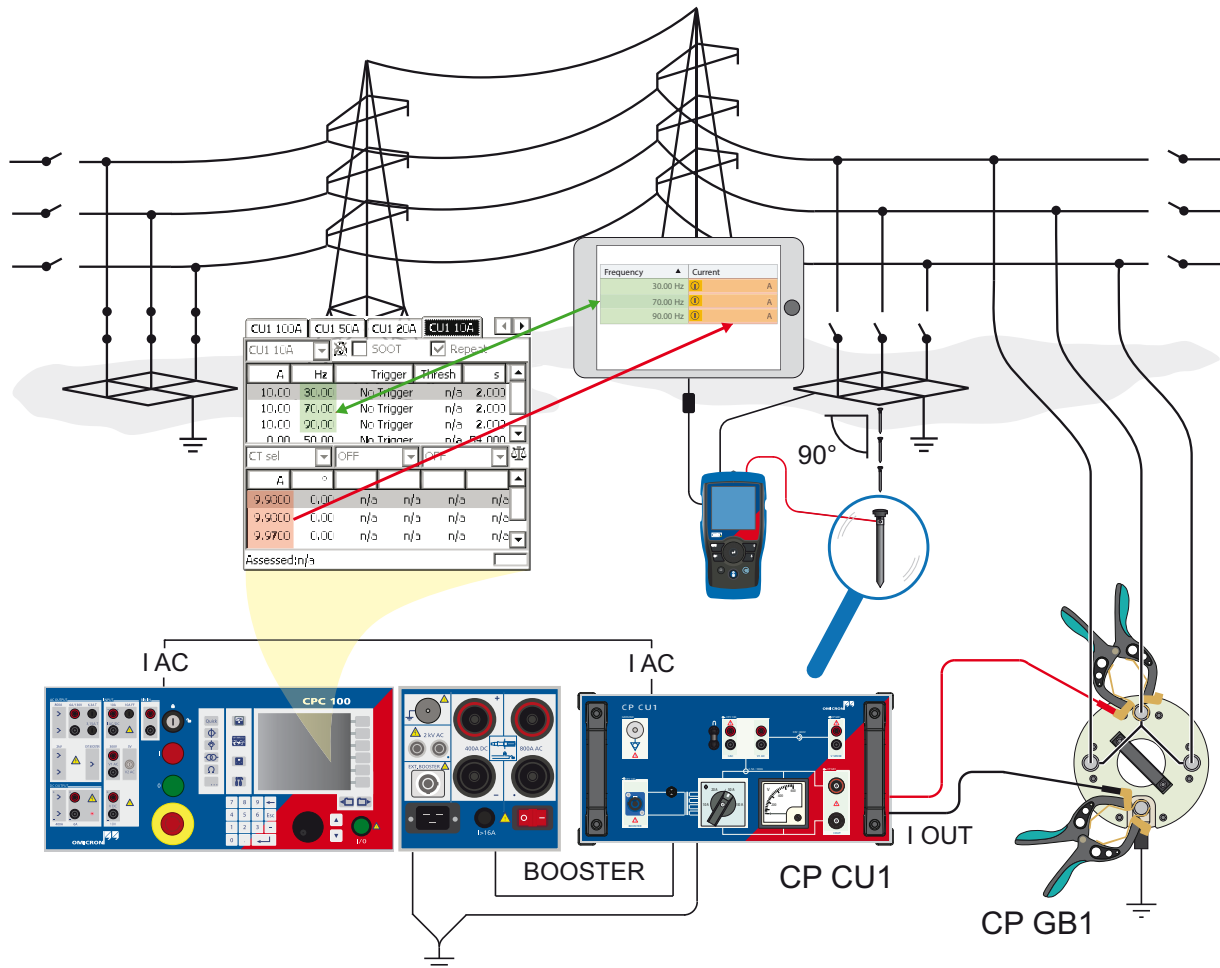
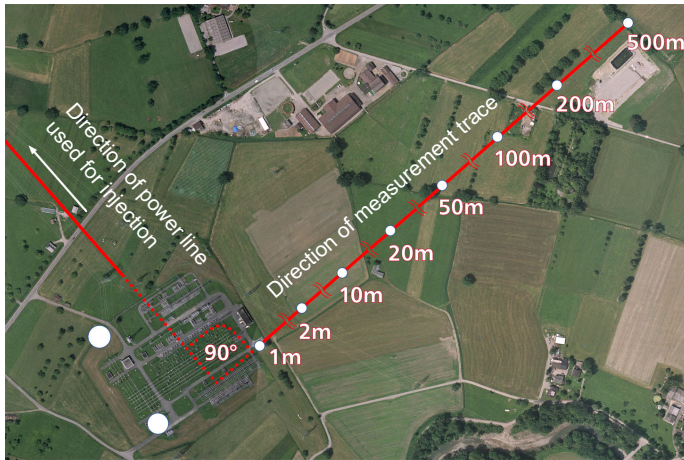

Figure 9-1: Ground impedance measurement setup when using PTM on a tablet
Figure 9-2: Direction of measurement trace
2. If criterion 3 is met, establish the measurement setup as shown in Figure 9-1 below.
9. Follow the examples in Figure 9-2 and Figure 9-1: on page 37, by connecting the black input of the *HGT1* with any grounded part in the substation and the red input with the rod, which is used as test electrode.